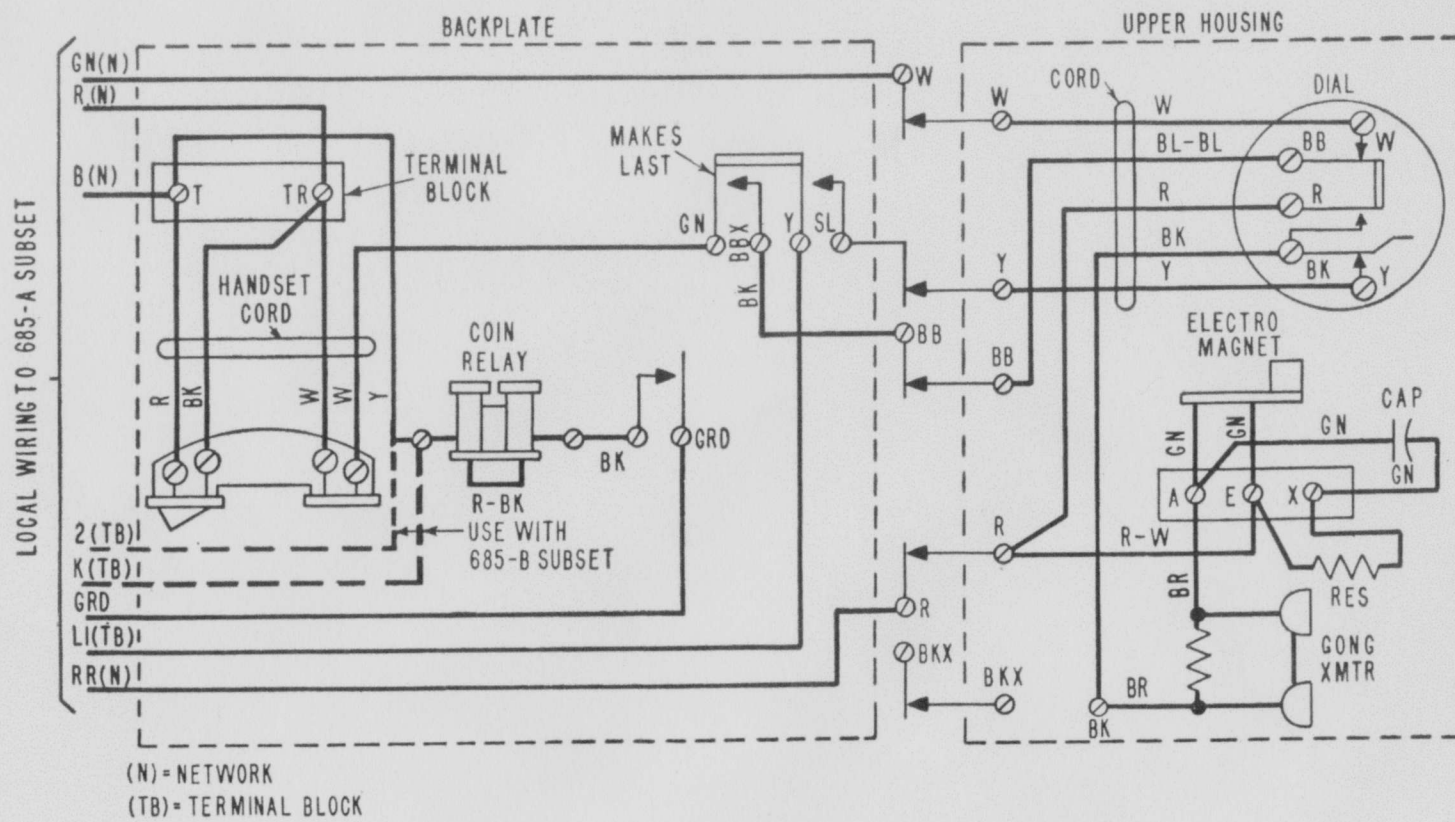

Fig. 5—191, 195, 196, and 197 EN and GN Coin Collectors
- (d) Place necessary additional local wiring between the coin collector and the subset, and make connections as shown in Fig. 5 and in Section C63.223, Subscriber Sets, Connections, Common Battery.